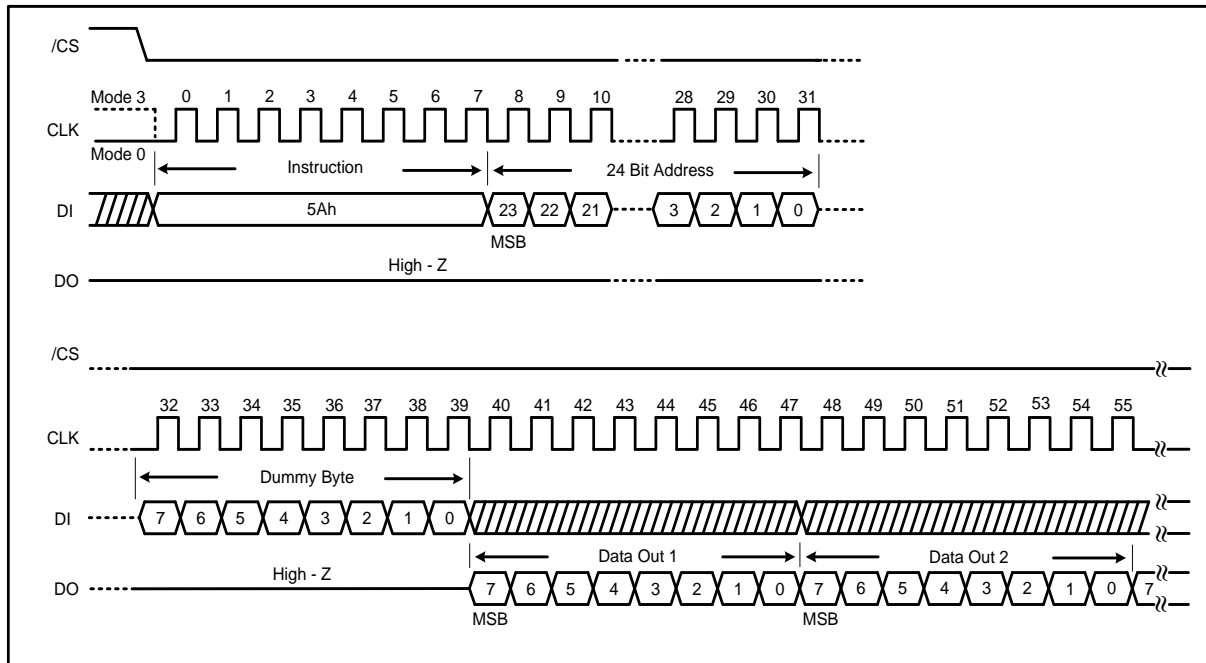

Figure 35a. Read SFDP Register Instruction Sequence Diagram
The Read SFDP instruction is initiated by driving the /CS pin low and shifting the instruction code “5Ah” followed by a 24-bit address (A23-A0)(1) into the DI pin. Eight “dummy” clocks(SPI mode) are also required before the SFDP register contents are shifted out on the falling edge of the 40th CLK with most significant bit (MSB) first as shown in Figure 35a, 35b. For SFDP register values and descriptions, please refer to the Dosilicon Application Note for SFDP Definition Table.